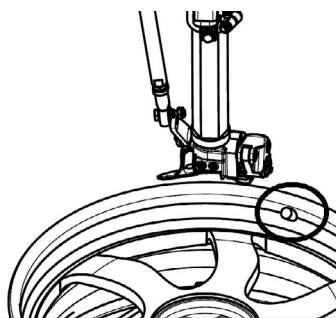

FIG 28
- If there has inner tube in tire, in order to avoid damage the inner tube, the demounting hook should be operated about 10cm away from the left side of the valve as shown in **FIG28**.